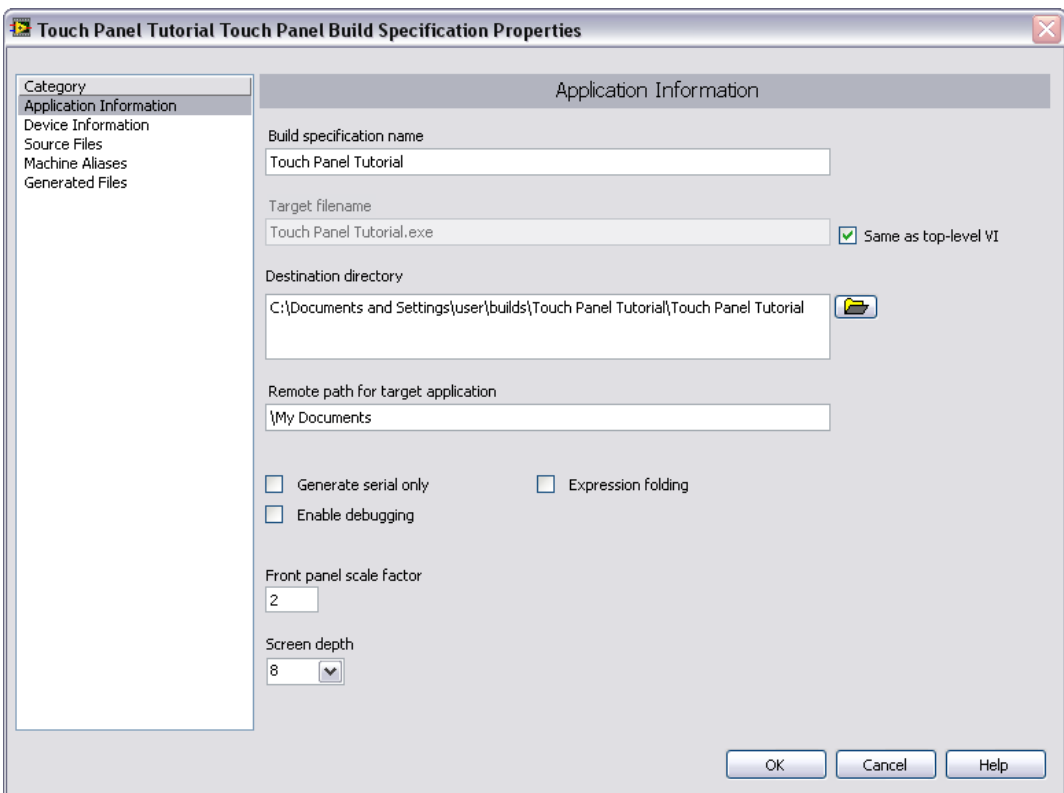

Figure 4. Defining the Touch Panel Application Information
1. Define the settings for the Touch Panel application as shown in Figure 4.